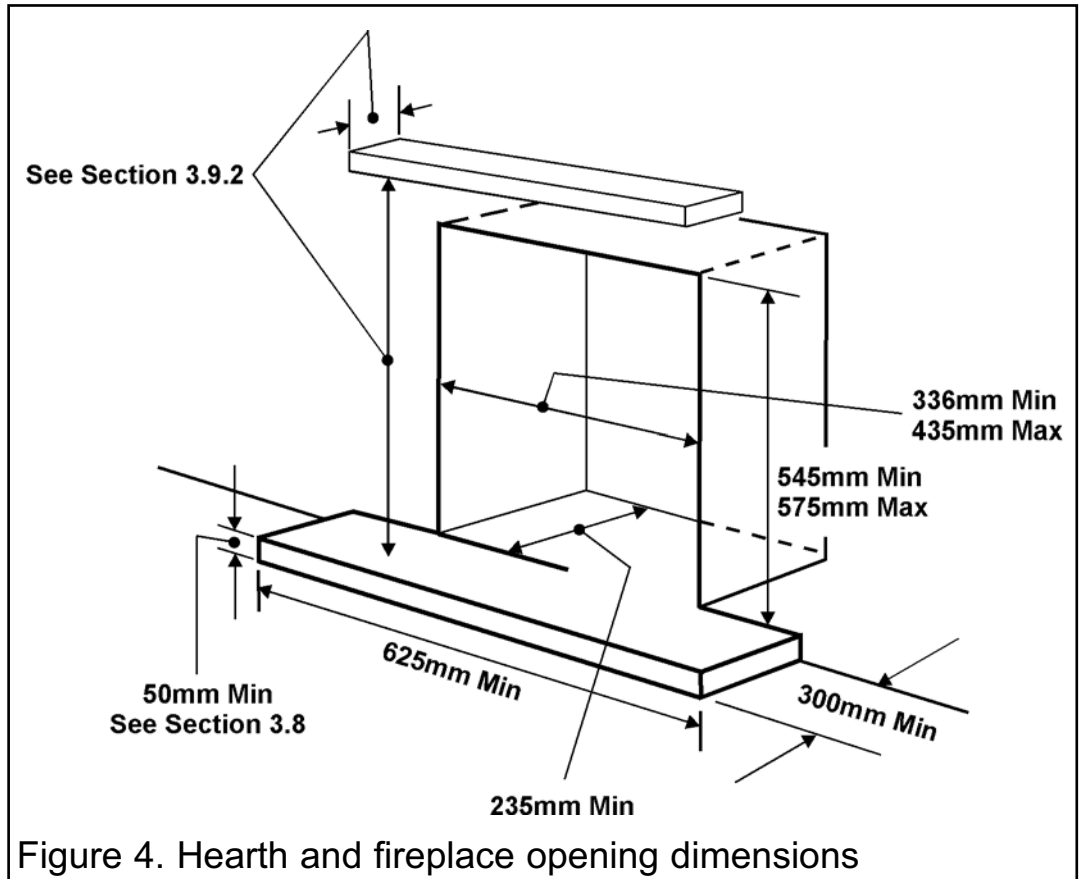

Figure 4. Hearth and fireplace opening dimensions
The appliance must not stand on combustible materials or carpets (See figure 4).
To a fireplace complete with hearth as shown in figure 4. Chair brick removal may not be required providing at least 50mm clearance is available from the flue outlet to any fireplace component.
- It is recommended that a hearth should be installed as in section 3.8 (See figure 4).